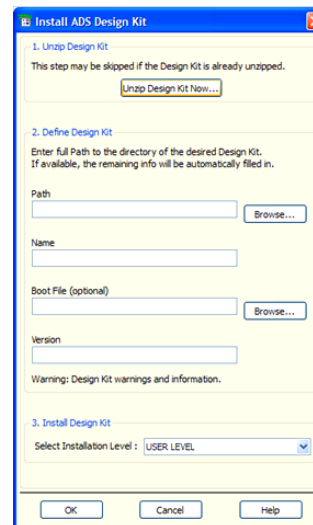

Figure 8. Unzip Archived Model
- 2) A pop-up window appears, click on Unzip Design Kit Now, Figure 8.